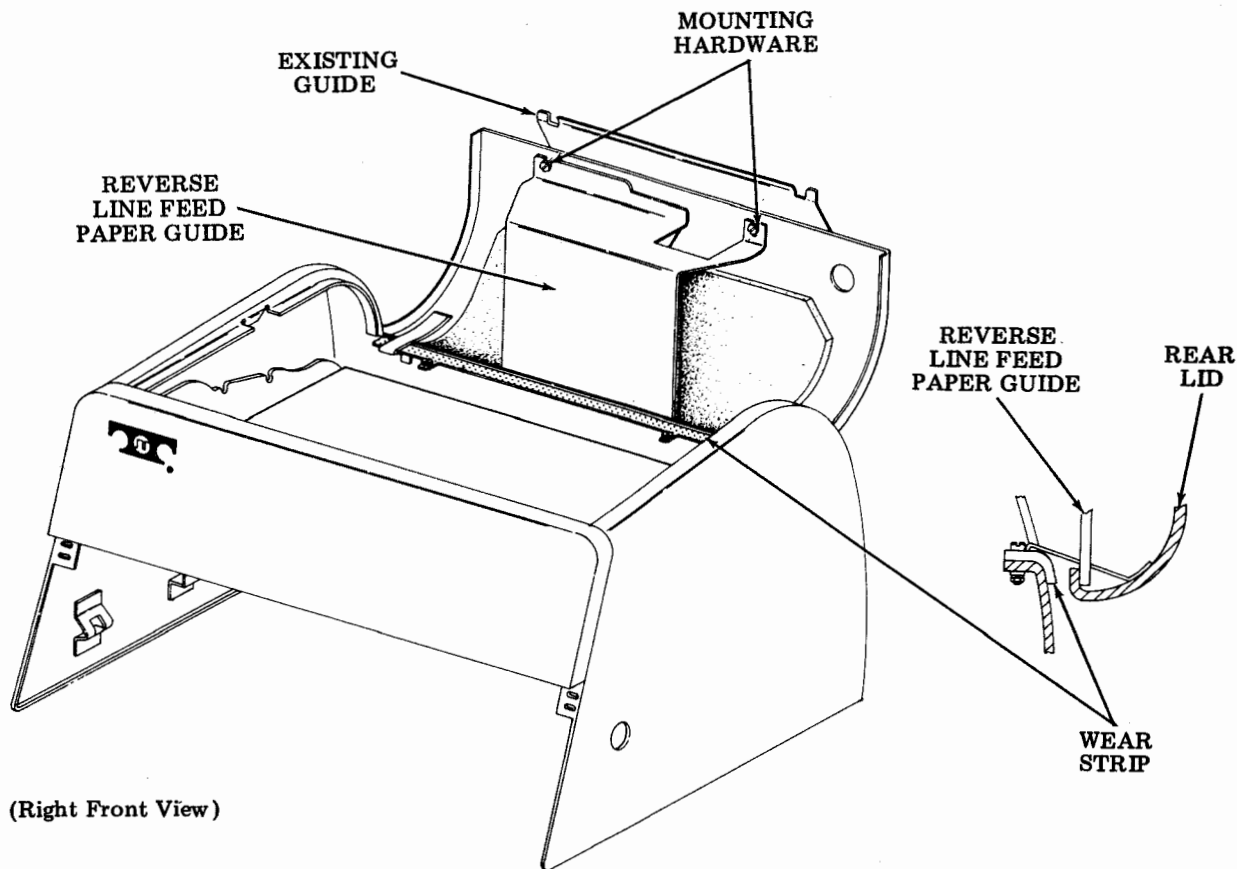

Figure 12 - Paper Guide and Wear Strip
4.12 On sprocket feed typing units, remove the wear strip tied to the print position indicator. Install the wear strip to the rear of the cover assembly using the mounting hardware supplied with the wear strip (Figure 12).
4.13 On typing units equipped with reverse line feed, it is necessary to install a paper guide to the lid assembly. It is to be secured with the same mounting hardware as the existing guide (Figure 12).
4.17 When installing paper in sprocket feed typing units, feed the paper through the slot in the cover between the wear strip and the rear lid (Figure 12). Route the paper over the